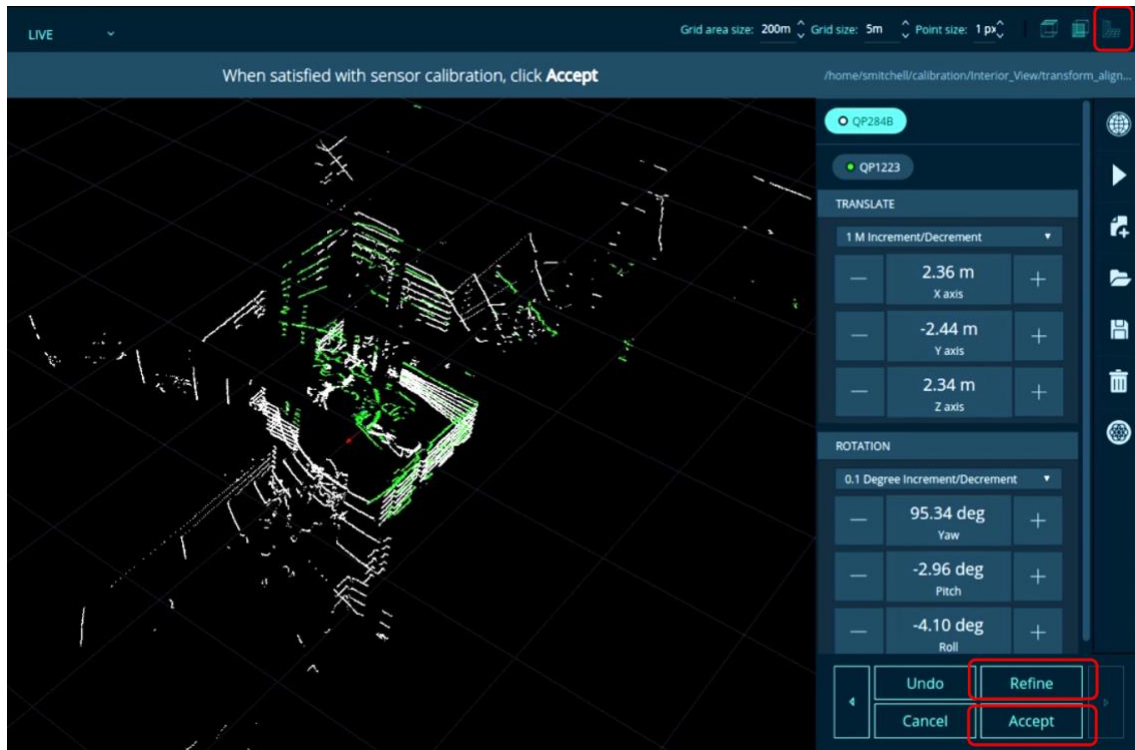

Figure 59. Calibrate Tab: Final Check in Perspective View
8. Click **Perspective View**, check more angles, and make more adjustments. See Figure 59. Calibrate Tab: Final Check in Perspective View.
9. Optionally, for M8-to-M8 calibration: click the **Refine** button for final algorithmic refinement. See Figure 59. Calibrate Tab: Final Check in Perspective View.
10. Click the **Accept** button to lock in the results. See *Figure 59. Calibrate Tab: Final Check in Perspective View*.
6. Click **Accept** to lock in the results. See Figure 59. Calibrate Tab: Final Check in Perspective View.